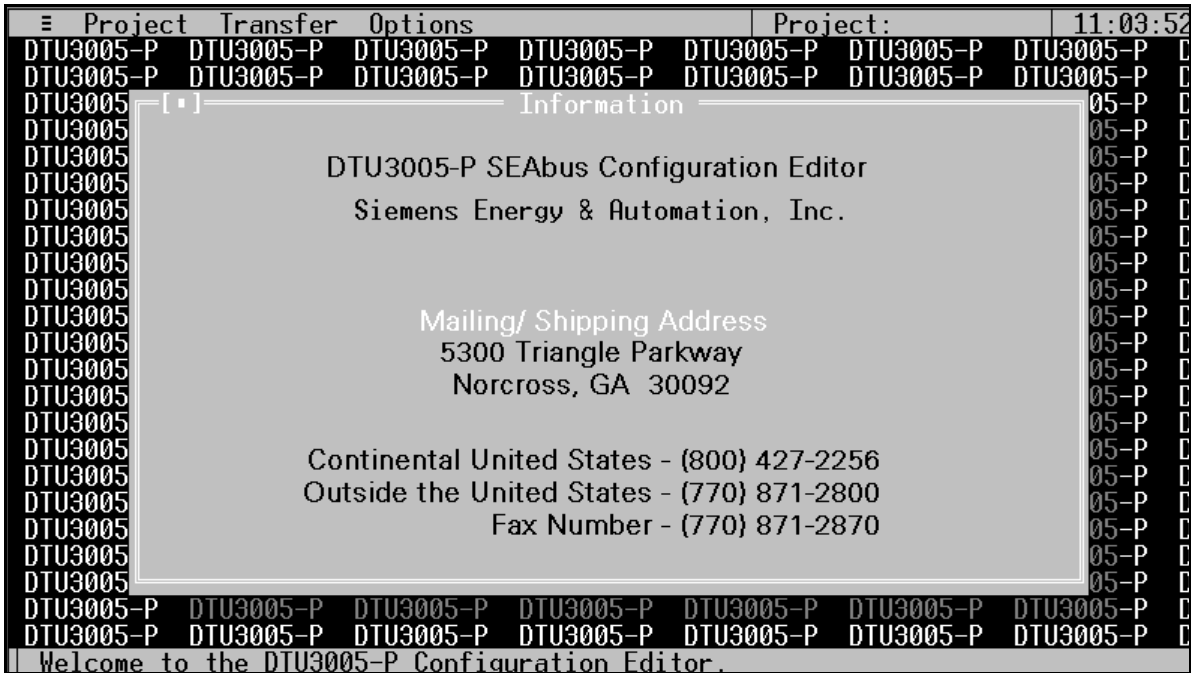

Figure 3.1 DTU3005P Editor Information Screen
4. The DTU3005P Editor program starts. An information screen is displayed (see **Figure 3.1**).
- **Project** — enables you to load, save, view, and print project files. It also allows you to switch to a DOS prompt or quit the program. Its operation is described in **Figure 3.1**.
Note: All menus and dialog box selections are accessible from the keyboard or by using the mouse. From this point on, this manual will only use the term select when referring to program navigation. Refer to **Figure 3.1** for menu navigation instructions.